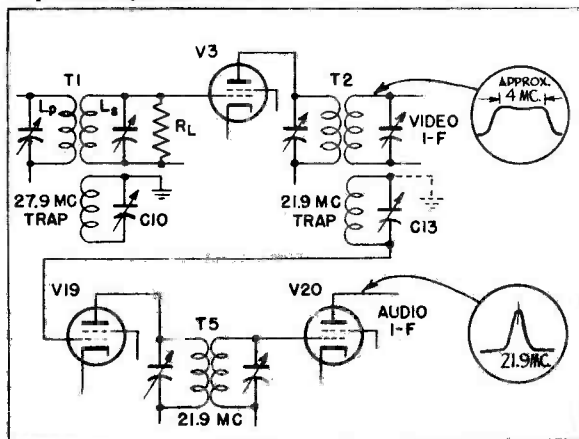

Fig. 3. Video & Audio I-f Amplifier
2. VIDEO AND AUDIO I-F AMPLIFIERS (See Figure 3)—The video i-f amplifier makes use of a three-stage band-pass amplifier using three Type 6AC7 tubes. The transformers, T1, T2, T3, and T4, are overcoupled and then loaded with resistance, R_L , to give an adequate (approx. 4 mc) band-pass frequency characteristic. A third winding is added to each video transformer and tuned to trap out the adjacent audio and associated audio interference. The trap on T1 is tuned to 27.9 mc to provide rejection of the adjacent channel audio i-f, while the traps at T2, T3, and T4 are tuned to 21.9 mc to provide rejection of the same channel audio.